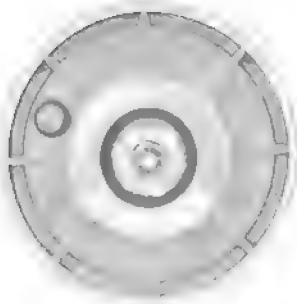

Fig. 36—T3 Transmitter Unit, Rear View
6.54 The T2 and T3 transmitter units (Fig. 35) have a protective grid to prevent fraudulent operation of the coin collector. The T3 (Fig. 36)